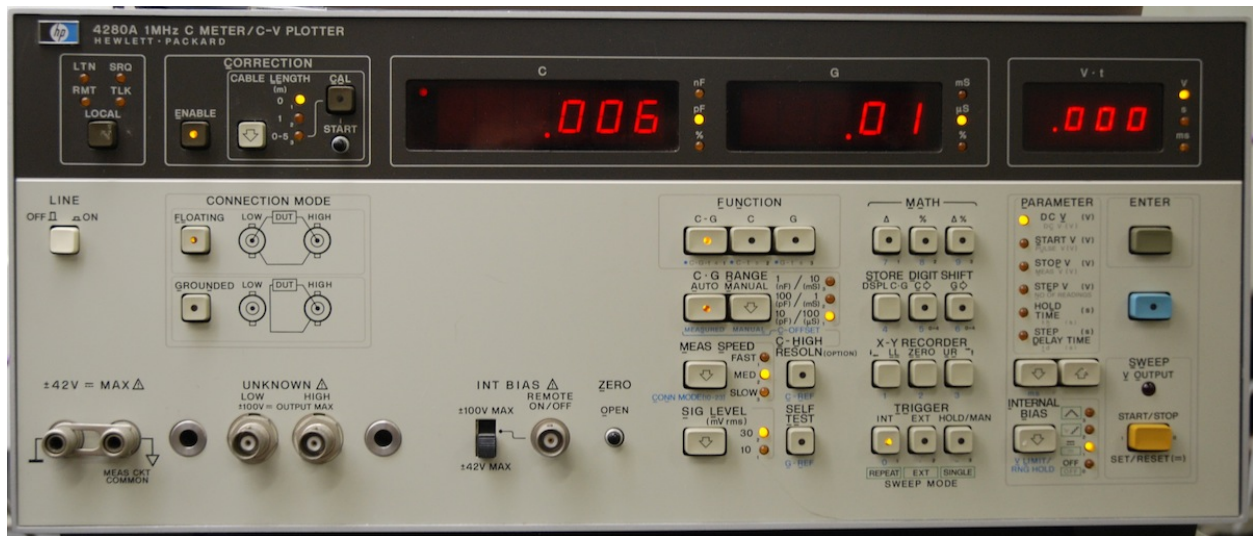

Figure 2. Front panel of the Hewlett-Packard 4280 capacitance-voltage meter.
2. Determine which probes will be used for the positive and negative contacts to the capacitor and connect them to two of the BNC connectors at the back of the probe station. Connect a coaxial cable from the BNC connector corresponding to the negative capacitor contact to the LOW input connector on the 4280. Connect a second coaxial cable from the BNC corresponding to the positive capacitor contact to the HIGH input connector on the 4280. (The connectors are near the lower left corner of the 4280. They can be seen in Fig. 2.)